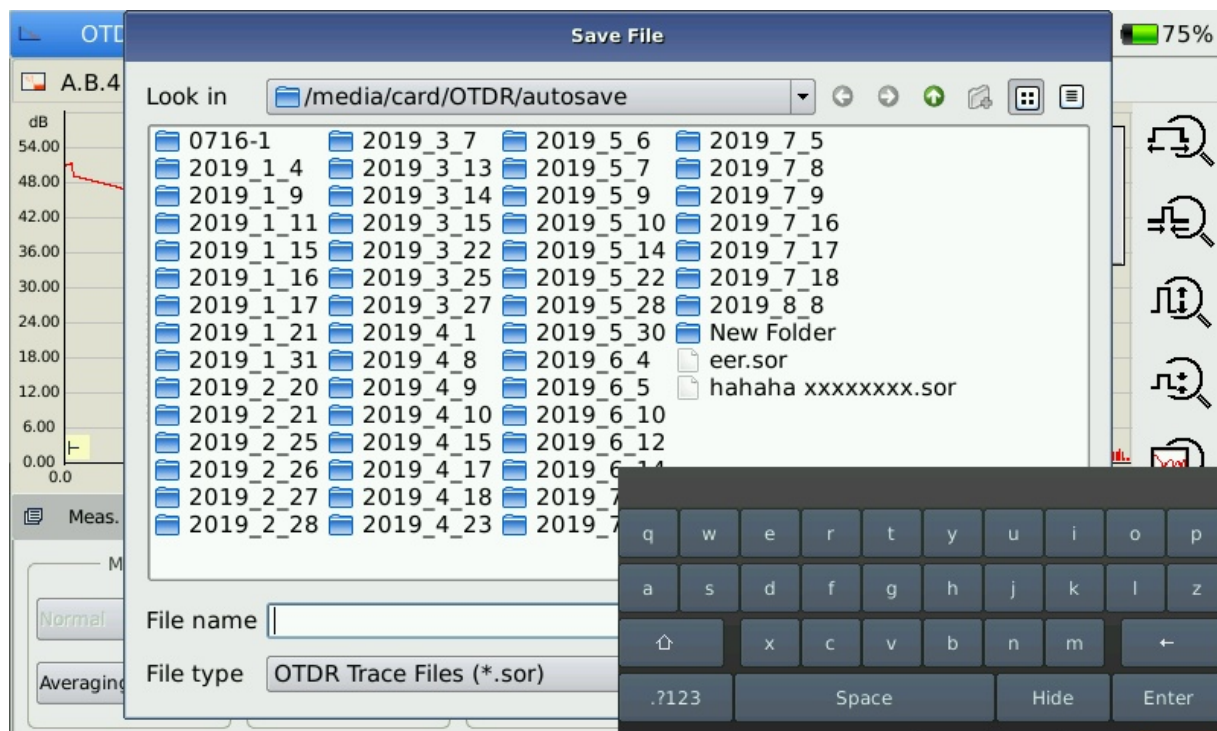

Fig. 7.2 Save dialog window
Save dialog window and options are shown below in Fig 7.2:
- ◆ Title bar shows the current folder path, as shown in Fig 7.2: “\SDMMC_DISK\Traces\”.